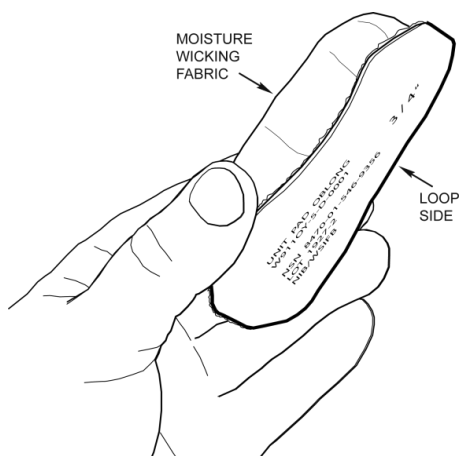

Figure 1. Loop Side of Pad.
1. Attach the loop side of each helmet pad (Figure 1) to the hook disks on the inside of the helmet shell.